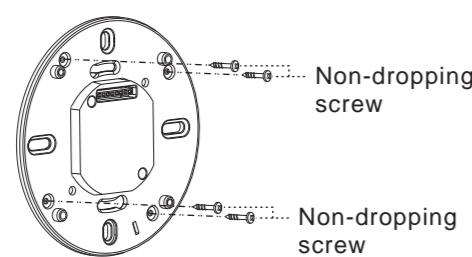

FIG.20
3.4.3.4 Insert 4pcs non-dropping screws to the corresponding screw holes on detector's fixing plate, and those 4pcs screws will not drop off to provide convenience to the subsequent installations (See FIG.20).